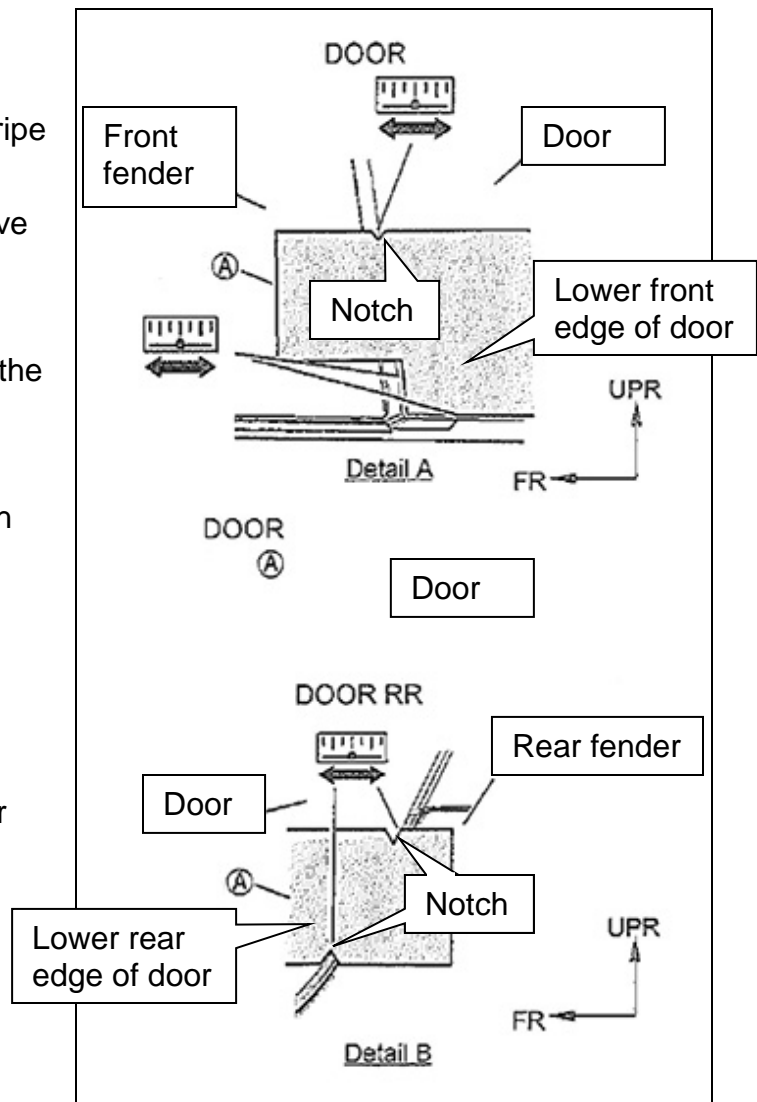

Figure 22
**NOTE:** Use the notches in the accent stripe, shown in Figure 22, to align with the front and rear edges of the door.
6. Set the door accent stripe on the door and align as shown in Figures 22 and 23.